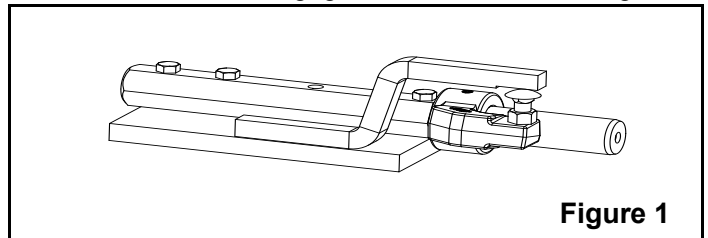

Figure 1
5. Mount the arm to gage #07277 as shown in figure 1.